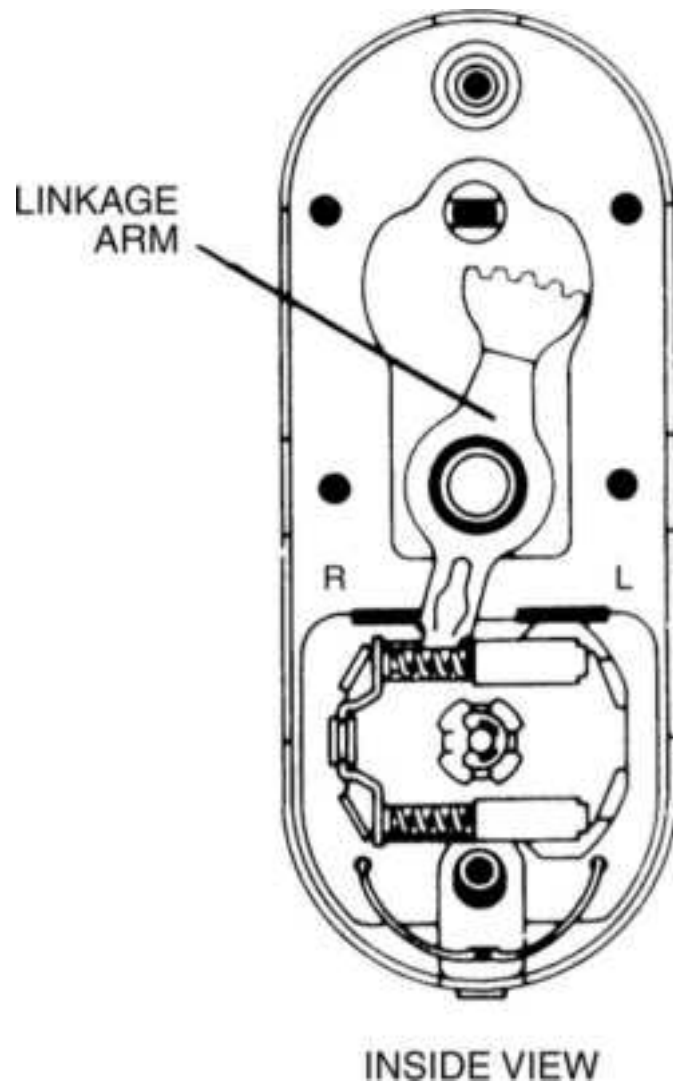

**Figure 13.101** Right-hand conversion, Step 9.
9. Install the linkage arm (Fig. 13.101 ).